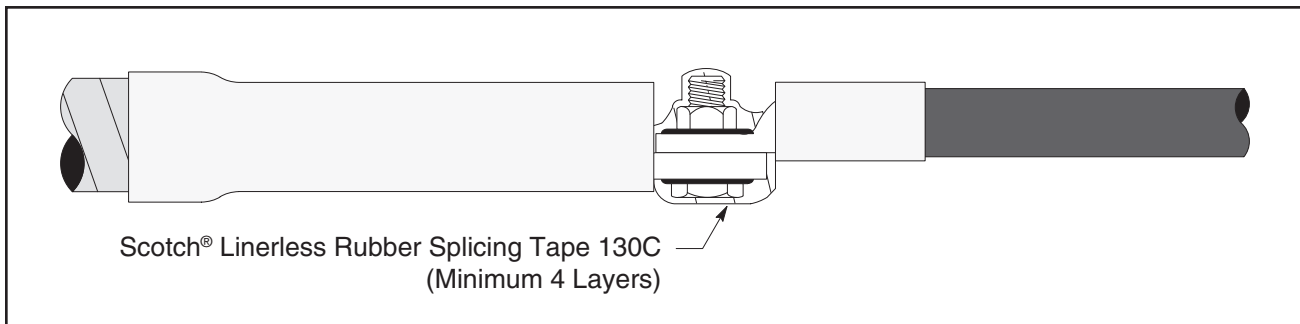

Figure 15
- 8.7 Slide adapters toward the bolt(s) as far as possible (*Figure 15*).